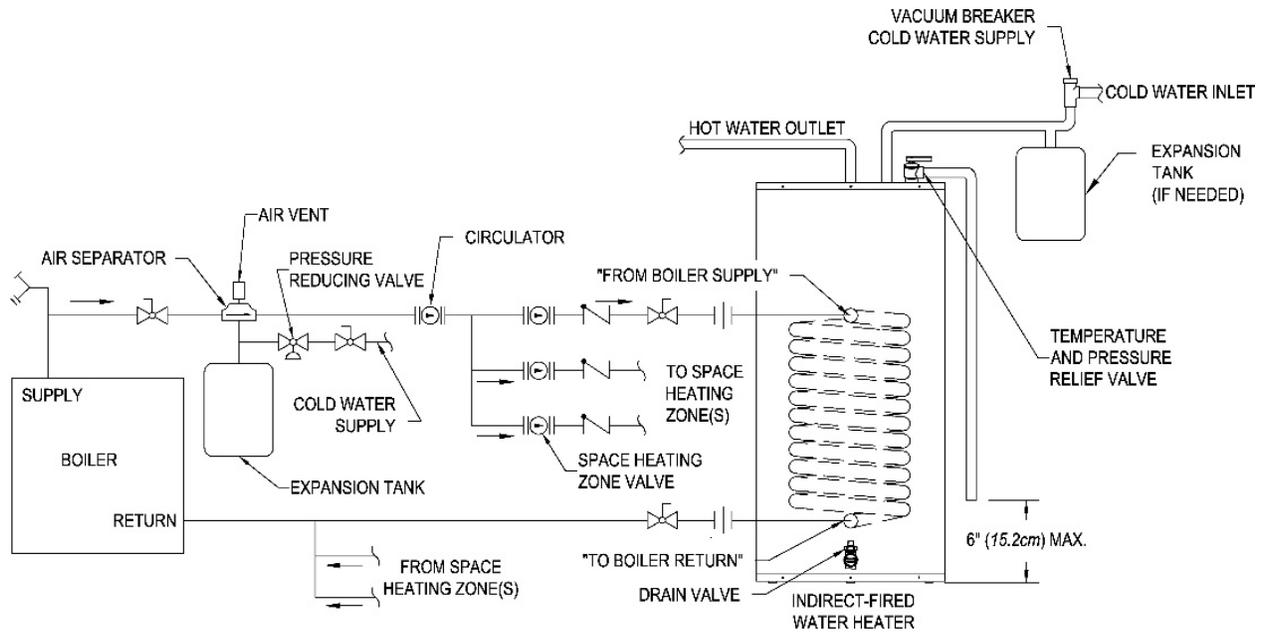

Figure 4 - Water Boiler Piping with Circulators
2. For a space heating system that utilizes CIRCULATORS, refer to Figure 4. The indirect-fired water heater connection labeled "FROM BOILER SUPPLY" should be piped to the boiler supply piping. Mount the circulator making sure the flow arrow points toward the water heater. The use of shut-off valves and unions are recommended for future service convenience. The use of an air separator and vent is recommended to eliminate air in the system. Pipe and fittings between the boiler and indirect-fired water heater must be $\frac{3}{4}$ " diameter or larger.